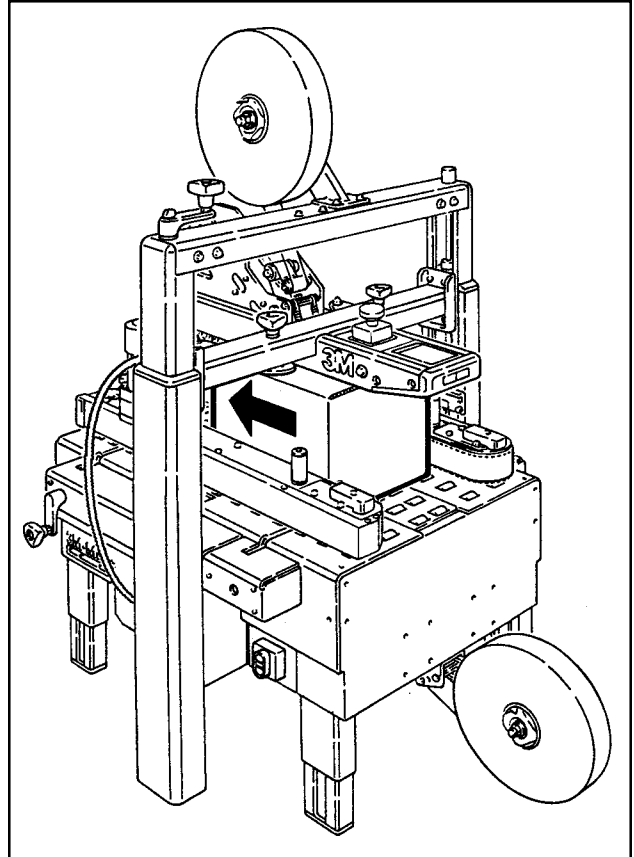

Figure 3-5 – Check Adjustment
4. RUN BOXES TO CHECK ADJUSTMENT (Figure 3-5)